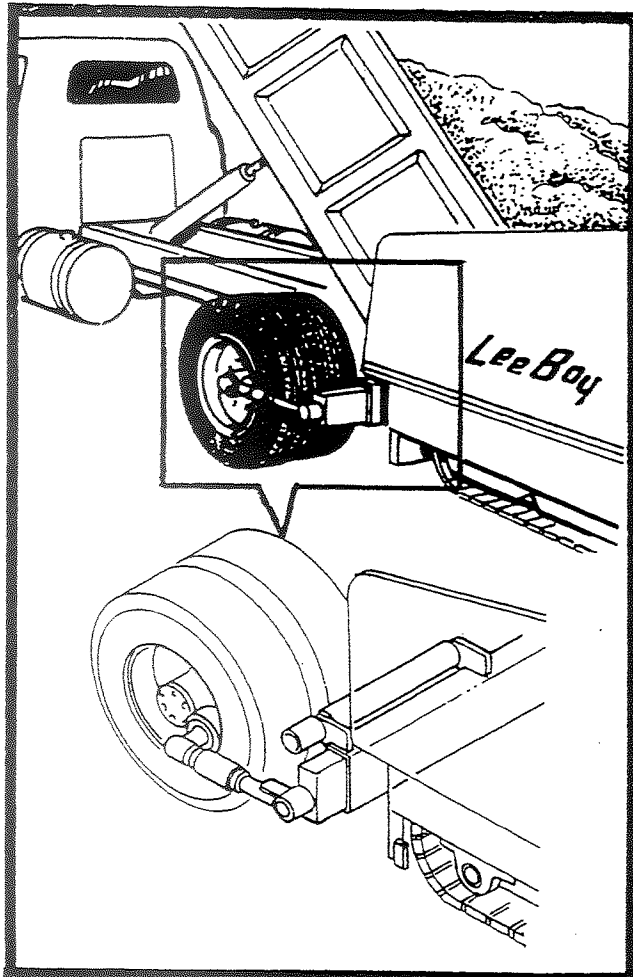

FIGURE 7
4. May be necessary to adjust the roller guides to the inside of the wheel rims, initially. See figure 7.